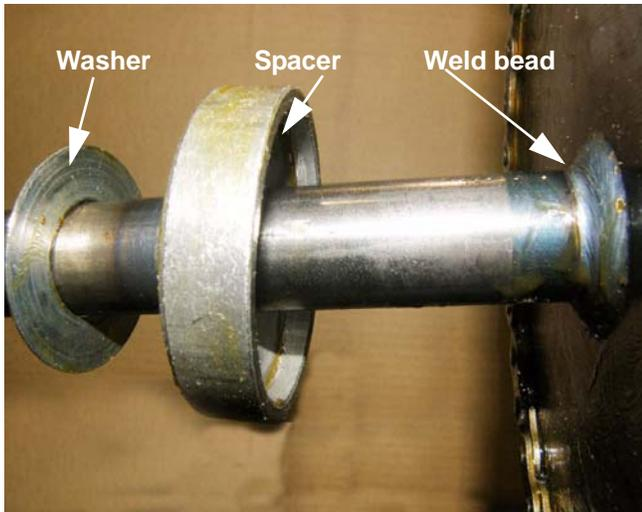

Figure 5.25
6. Notice the orientation of the spacer and the axle: See Figure 5.25.